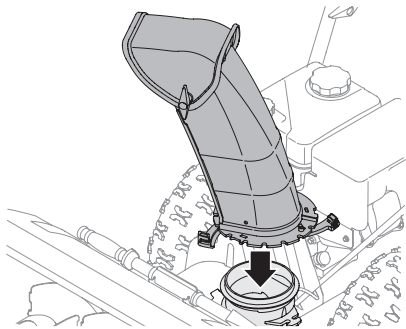

Figure 2-13
- 1. Position chute assembly over base. See Figure 2-13.